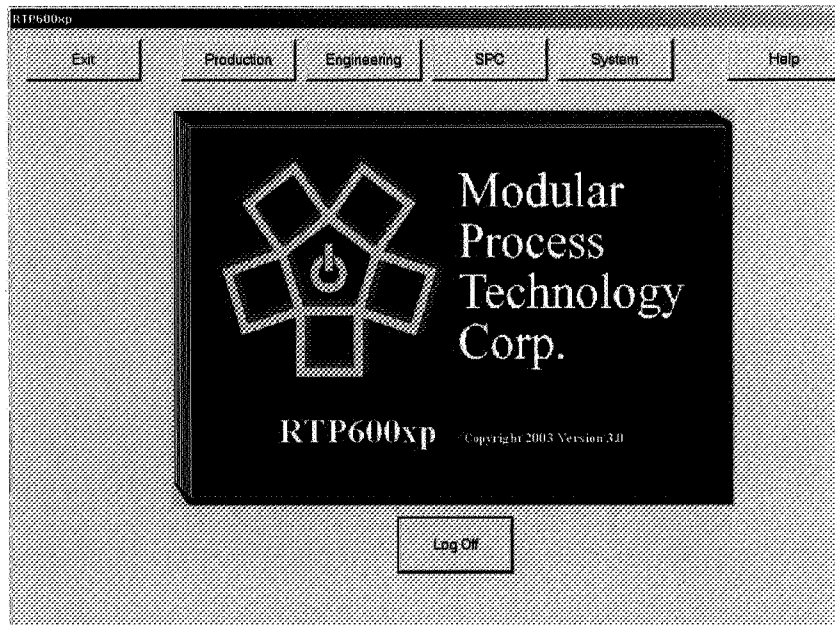

Figure 3-11. **Main Menu Screen**
1. Click [**Engineering**] from the Main Menu (see **Figure 3-11**).